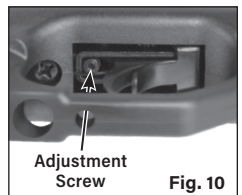

Fig. 10
- This air rifle is equipped with a two stage adjustable trigger. The pull-off point and the trigger travel are factory adjusted (Fig. 10).